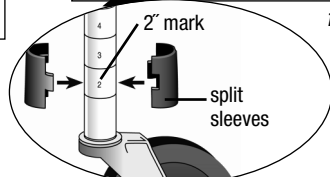

figure 2a
- Posts are numbered in 1" increments. Snap split sleeves onto each post at the 2" mark as shown in *figure 2a*. The thicker part of the taper goes toward the bottom. Make sure rib in split sleeve is seated into groove on post.